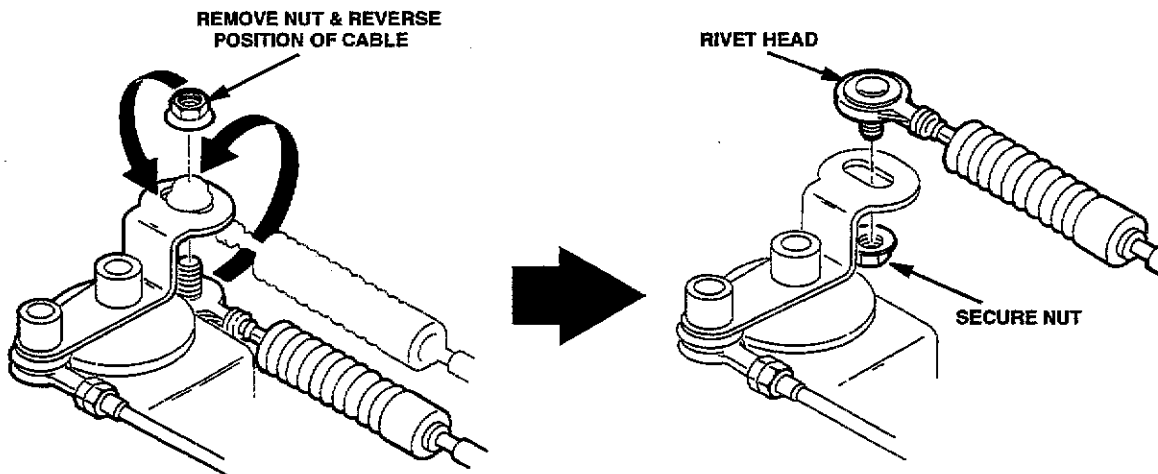

FIGURE 1
4. Reverse the position of the control cable end and secure to shift lever as shown below in **FIGURE 1**.